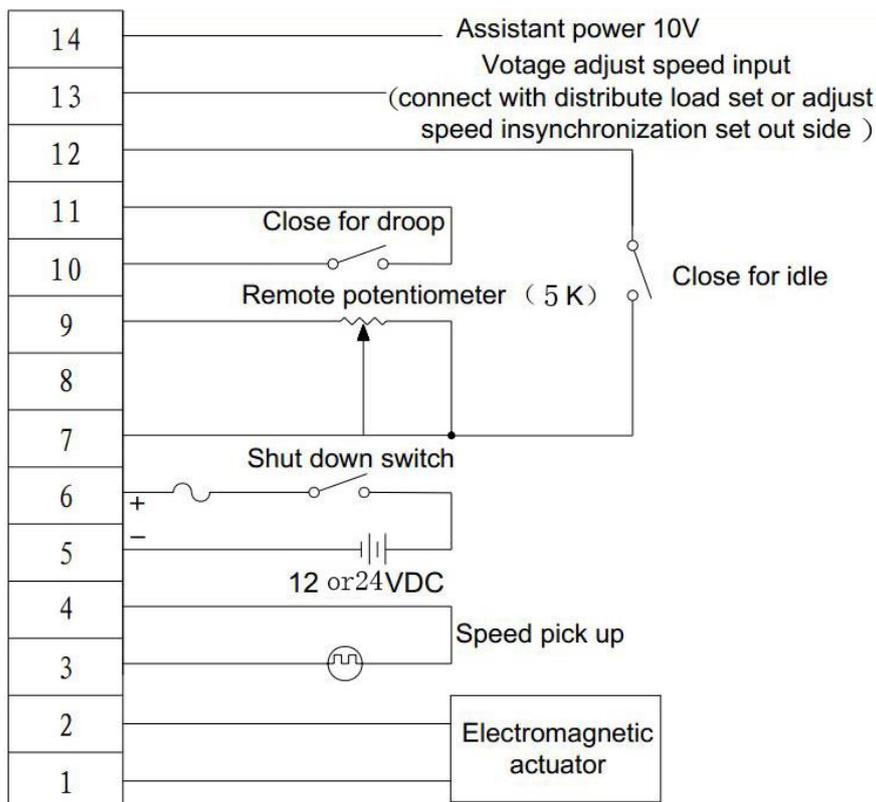

Figure 2.1.3.1 Connection diagram of the C2002 speed control unit for normal generator set
**2.1.3.1 C2002 speed control unit's connection diagram for normal generator set refers to figure 2.1.3.1**